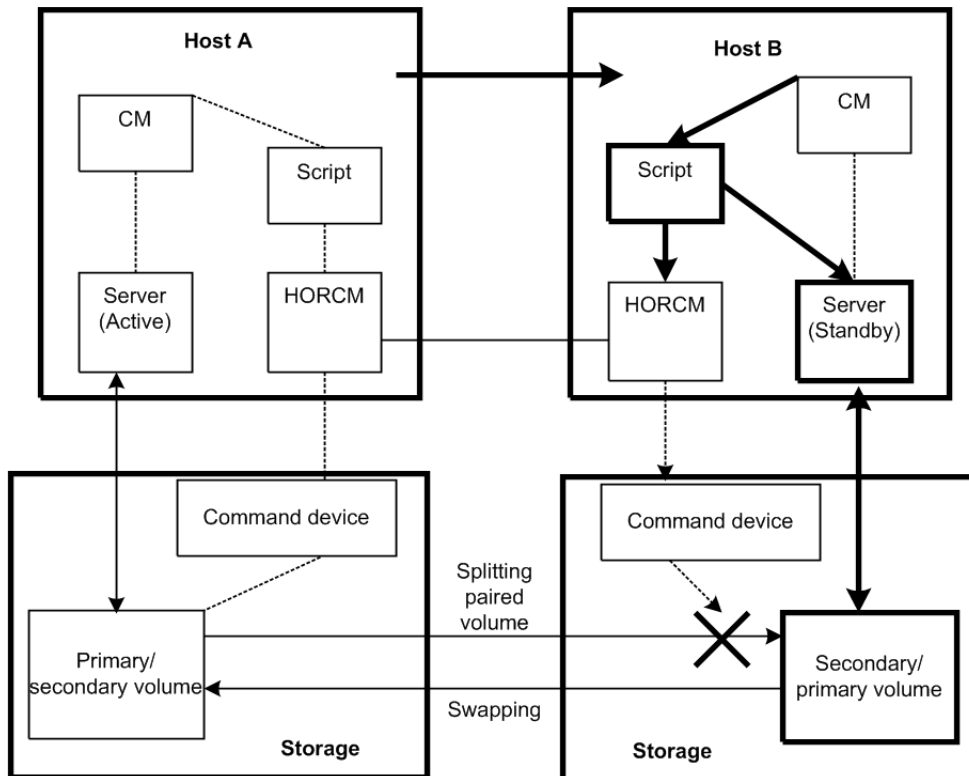

Figure 6-5 Server failover system configuration
Figure 6-5 Server failover system configuration on page 6-10 illustrates a high-availability (HA) environment. When a server software error or a node error is detected, the HA failover software causes the cluster manager (CM) to monitor server programs and causes the CM of the standby node to automatically activate the HA control script of the corresponding server program. The HA control script usually contains database recovery procedures, server program activation procedures, and other related recovery procedures. The TrueCopy CCI takeover commands are also activated by the HA control script.